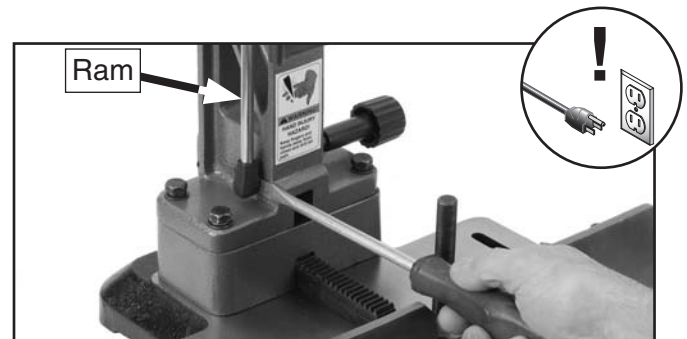

Figure 33. Removing gas spring from ball stud.
When working correctly, the gas spring shown in **Figure 33** keeps the headstock under pressure so it does not drop when the operating handle is released. If you ever notice that the gas spring stops working correctly, then promptly replace it.
2. Pull the gas spring off of the ball studs, as shown in **Figure 33**.